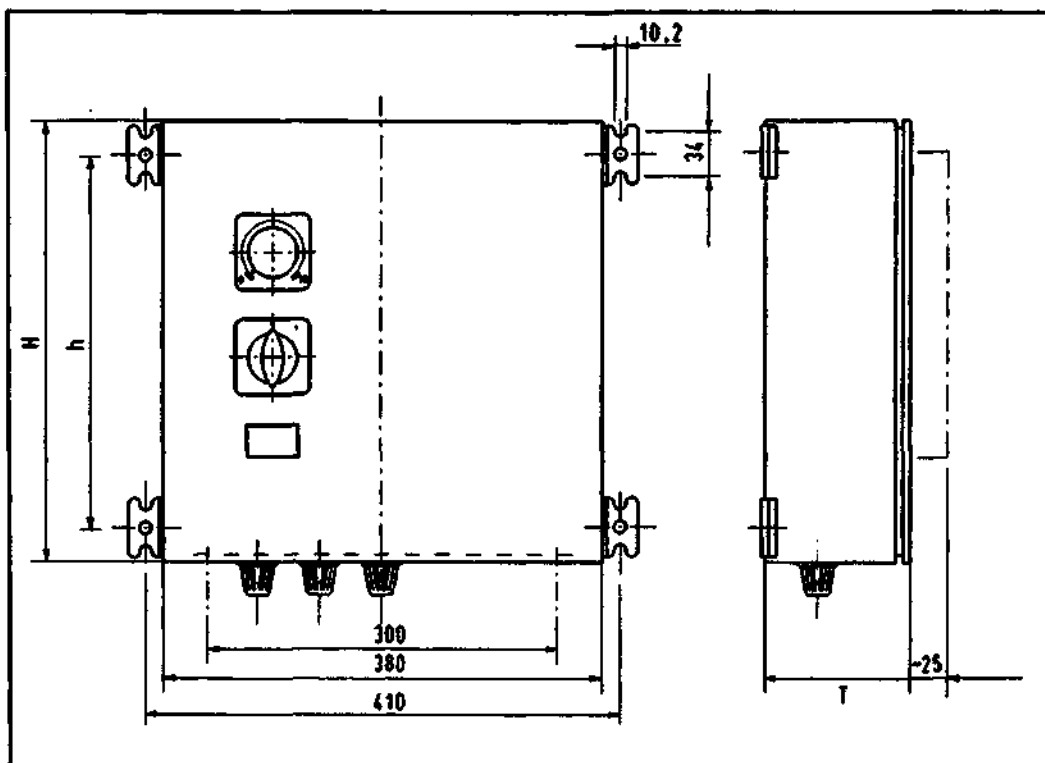

Figure 4.2
- ☞ Screw the mounting plates (delivered loose) onto the cabinet as shown in Figure 4.2.
- ☞ Use the hole pattern in Figure 4.2 to orient yourself, and drill the necessary holes for the fastening screws.